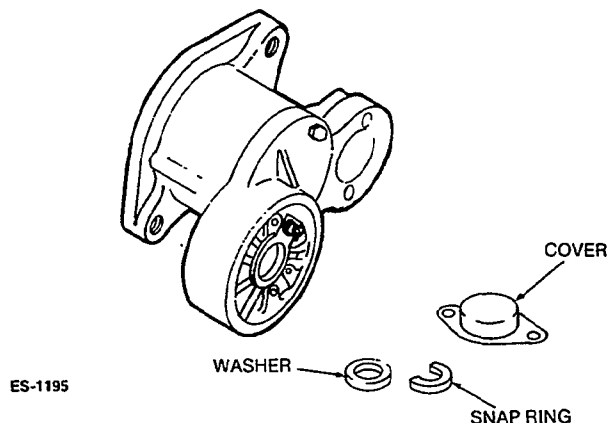

FIGURE 92. REMOVING SNAP RING AND WASHER
5. Remove cover assembly, (snap ring and washer) from the pinion shaft (Figure 92).